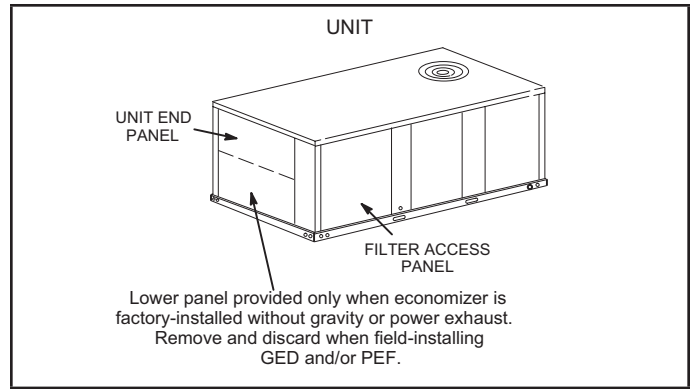

FIGURE 1
- 1 - Open unit end panel and filter access panel. See FIGURE 1. When gravity or power exhaust are field-installed, remove and discard the lower panel.